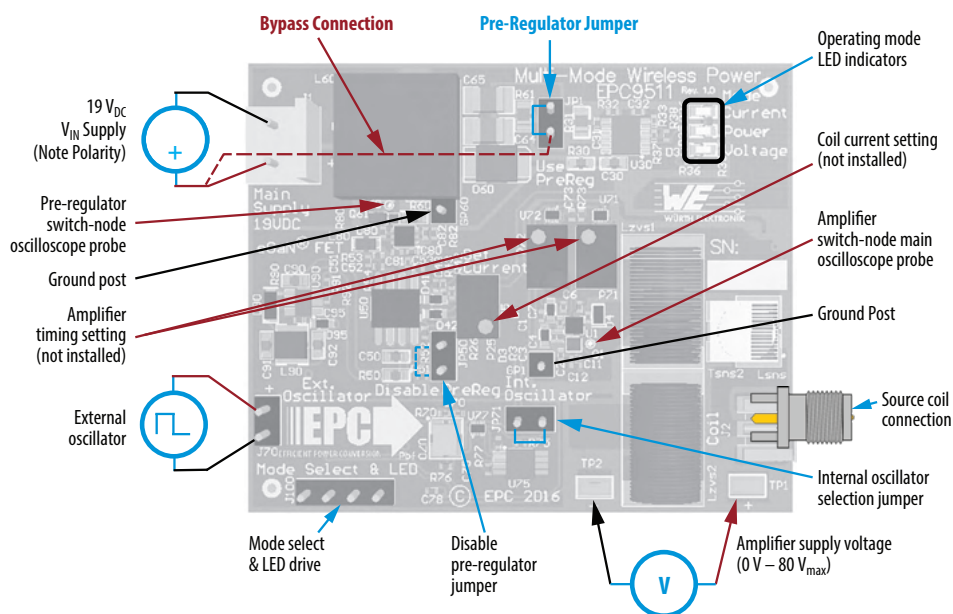

Figure 4: Proper connection and measurement setup for the EPC9511 amplifier board.
2. With power off, connect the main input power supply bus to J1 as shown in figure 4. Note the polarity of the supply connector.
2. With power off, connect the main input power supply bus to the bottom pin of JP1 and the ground to the ground connection of J1 as shown in figure 4.